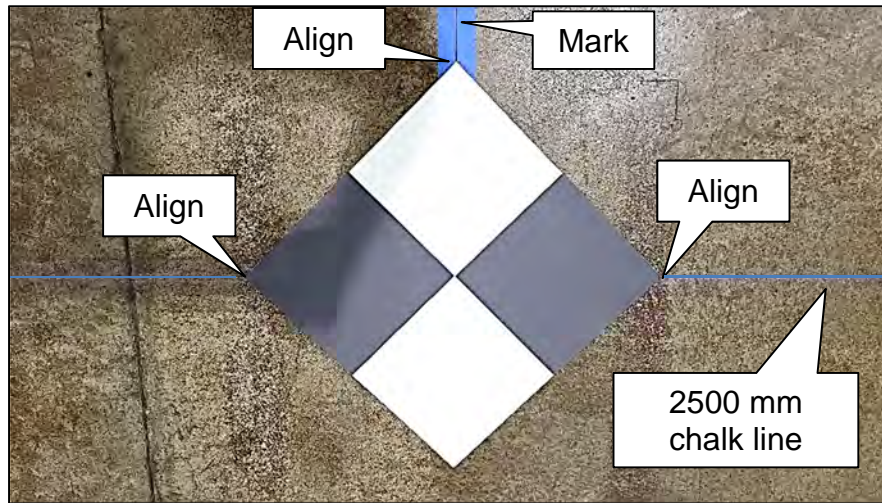
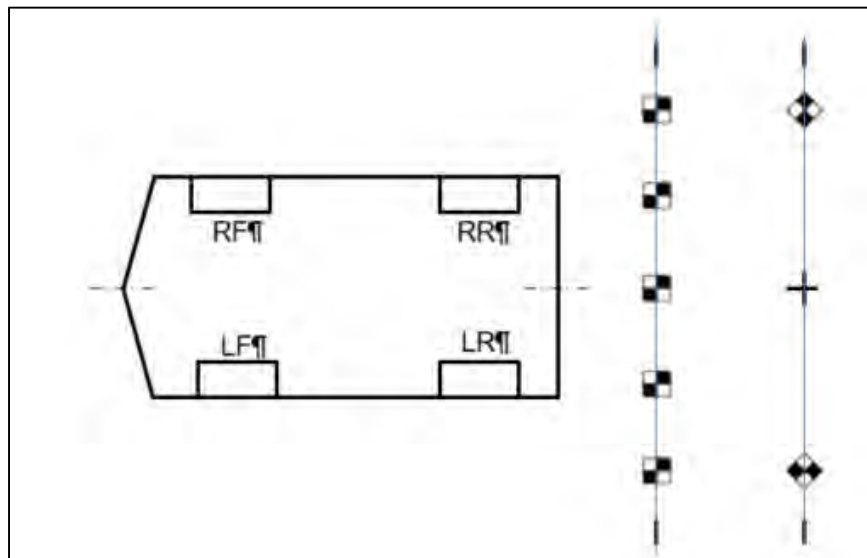
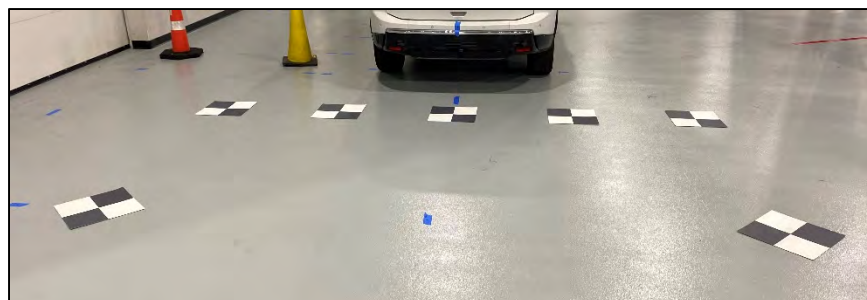

Figure 100
Figure 101
Figure 102
63. Place one (1) target on the passenger (RH) side mark on the 2500 mm chalk line.
**IMPORTANT:** Orient and align the target, as shown in Figure 100, Figure 101, and Figure 102. The target must be aligned with the 2500 mm chalk line and the marks made in step 60 on page 47.